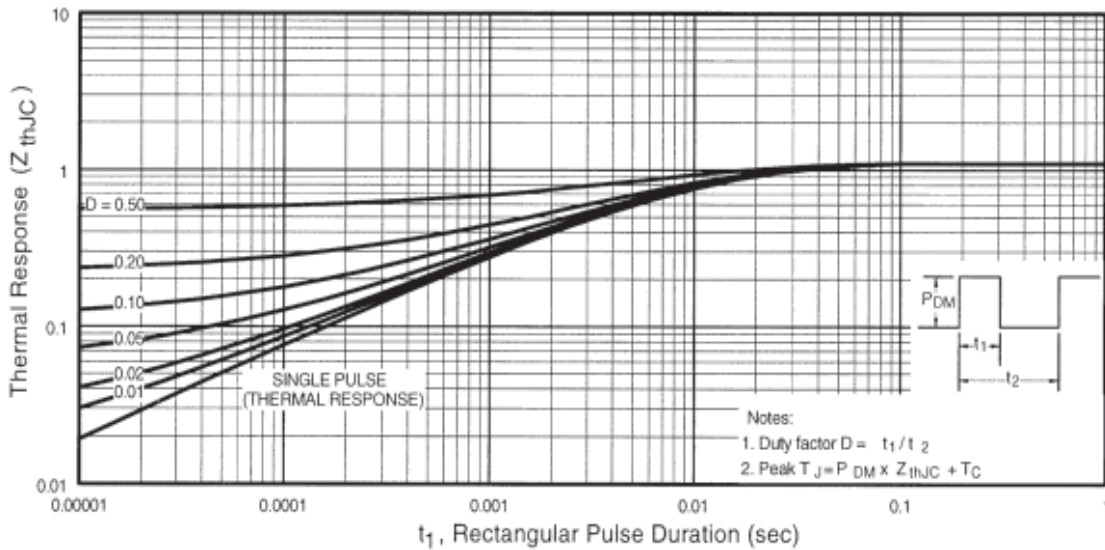

Fig 11. Maximum Effective Transient Thermal Impedance, Junction-to-Case
- ① Repetitive rating; pulse width limited by max. junction temperature. (See fig. 11)
- ② Starting T_J = 25°C, L = 1.9mH